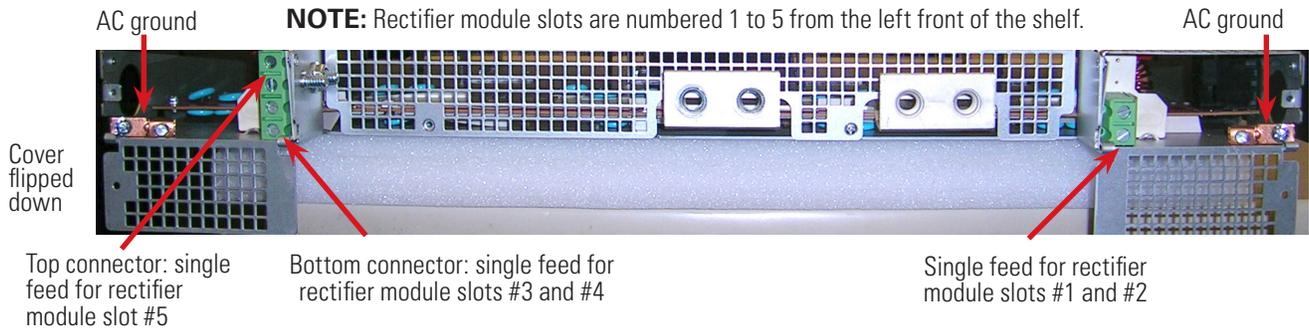

Figure 24: AC input and ground for 23-inch shelf
2. At the back of the shelf, remove screw and flip the cover down (two places) to access the AC input terminal blocks: each terminal pair corresponds to either two rectifier modules or one rectifier module as shown in Figure 24.